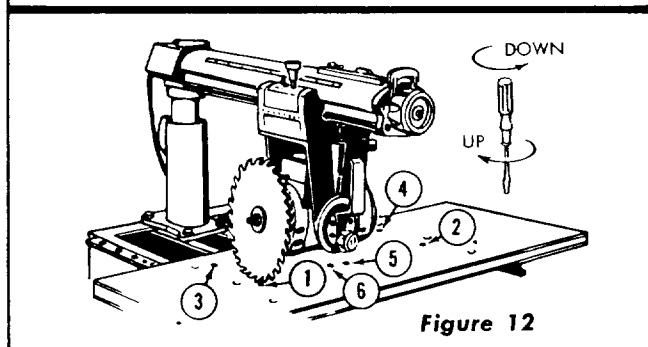

Figure 12
4. Loosen arm latch knob (20, figure 24) enough to obtain free movement of radial arm, ~~release arm latch lever (1, figure 24)~~ and loosen carriage lock knob and move it to points (1, 2, 3 and 4, figure 12) to find at which of these points the blade first touches the top of the table.
5. The high point must be at one of the front screw holes before continuing the paralleling procedure. If high point is not at the front, adjust the screw at point (1, figure 12) so the high point is created at the front near point 1. Raise the blade slightly to pick-up a "pinging" sound at this new high point.
11. Move the saw blade to all four screw positions to recheck for proper paralleling of table. (Points 1 through 4, figure 12.)